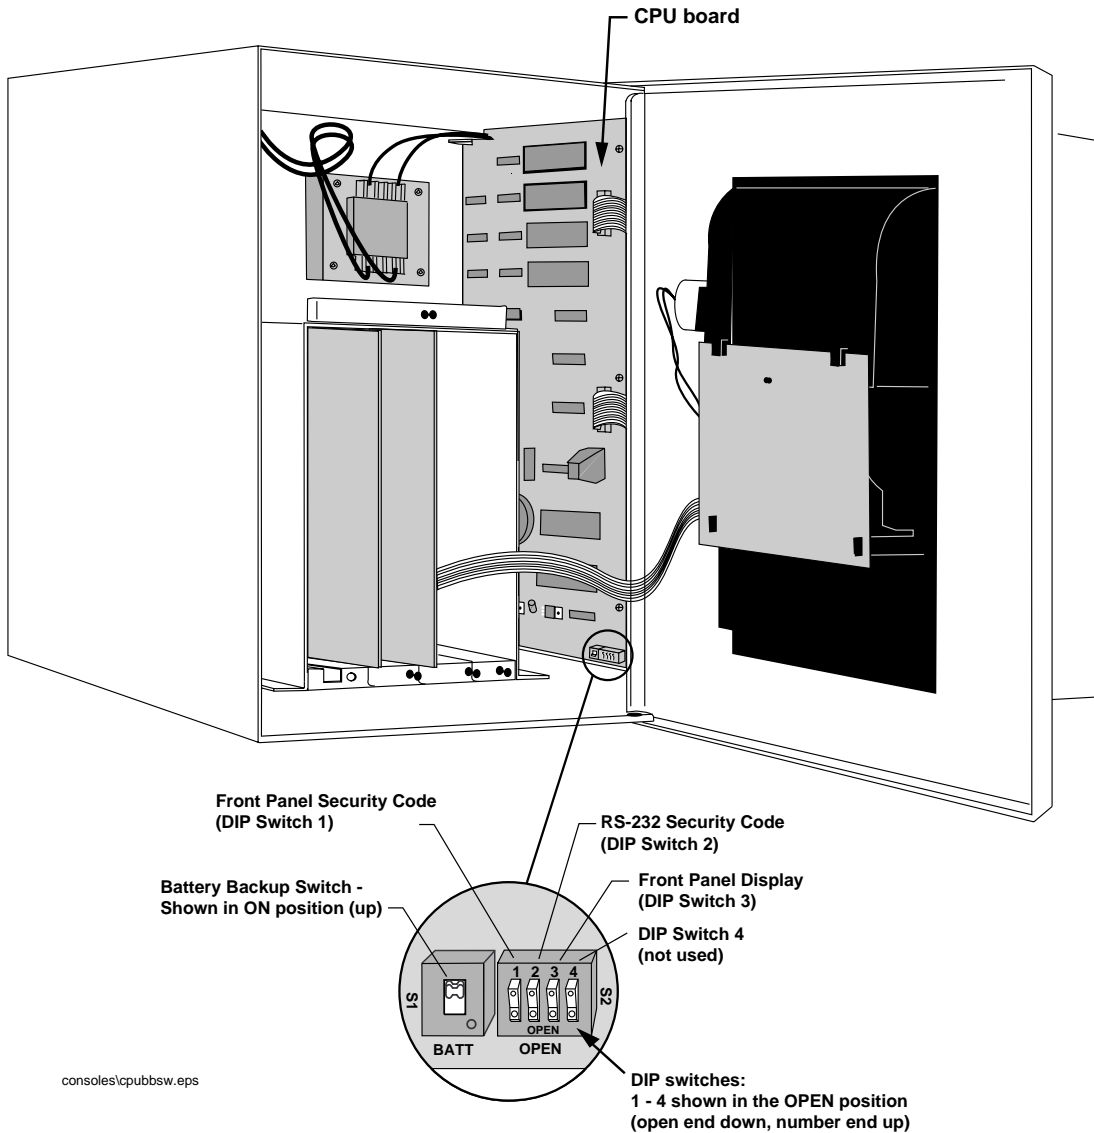
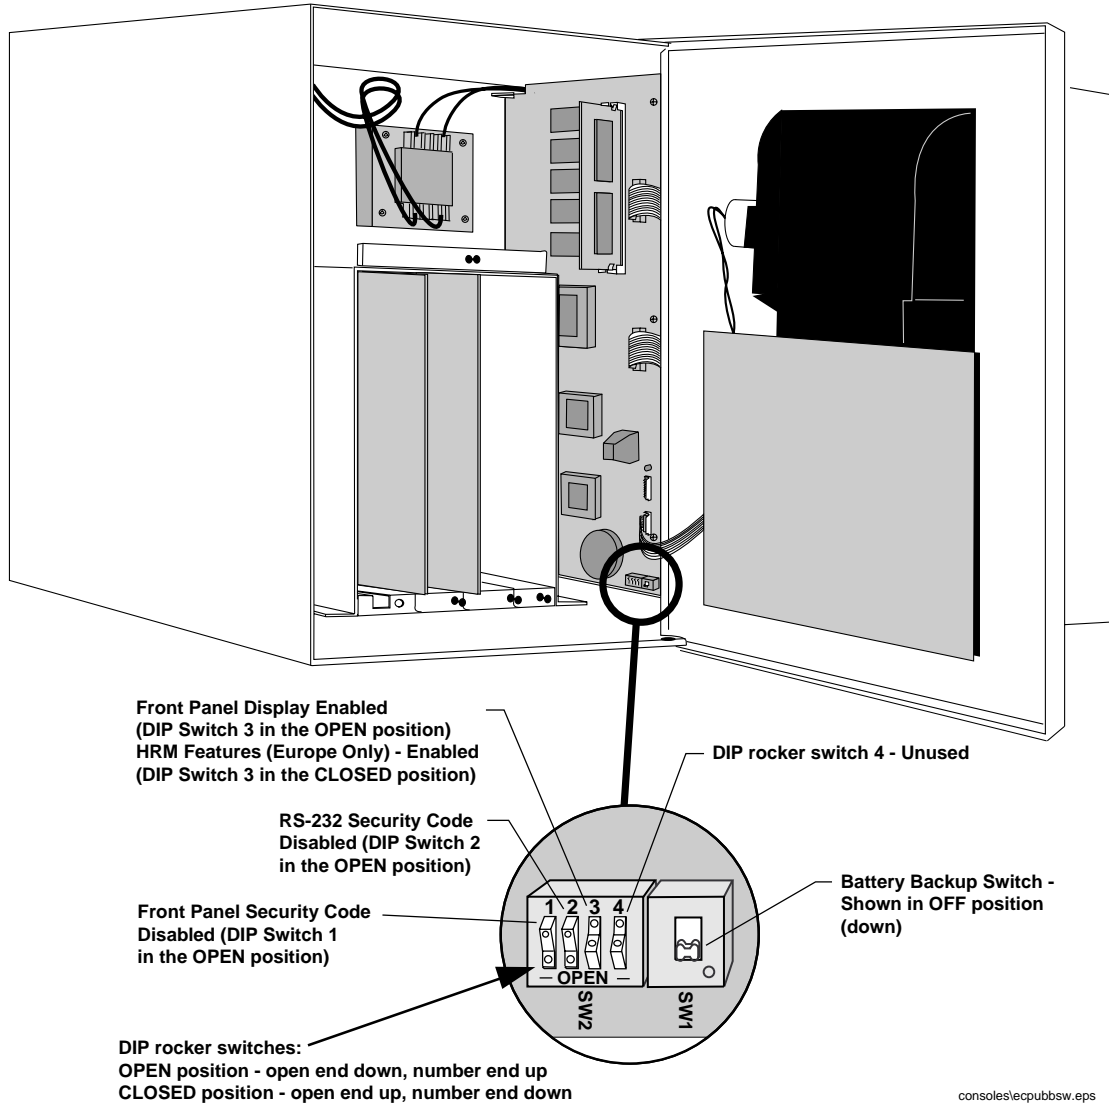

Figure 1. CPU Board Battery Switch ON (S2)
Figure 2. EPCU Board Battery Switch ON (SW1)
3. To retain current programming, be sure that the CPU (for TLS-350) or ECPU (for TLS-350R) board battery switch is set to “ON” (see Figure 1 on page 7 and Figure 2 on page 8). To avoid electrical shock or damage to components, if accessing the battery switch, avoid touching any circuit components with your hand or any conductive tool or jewelry.